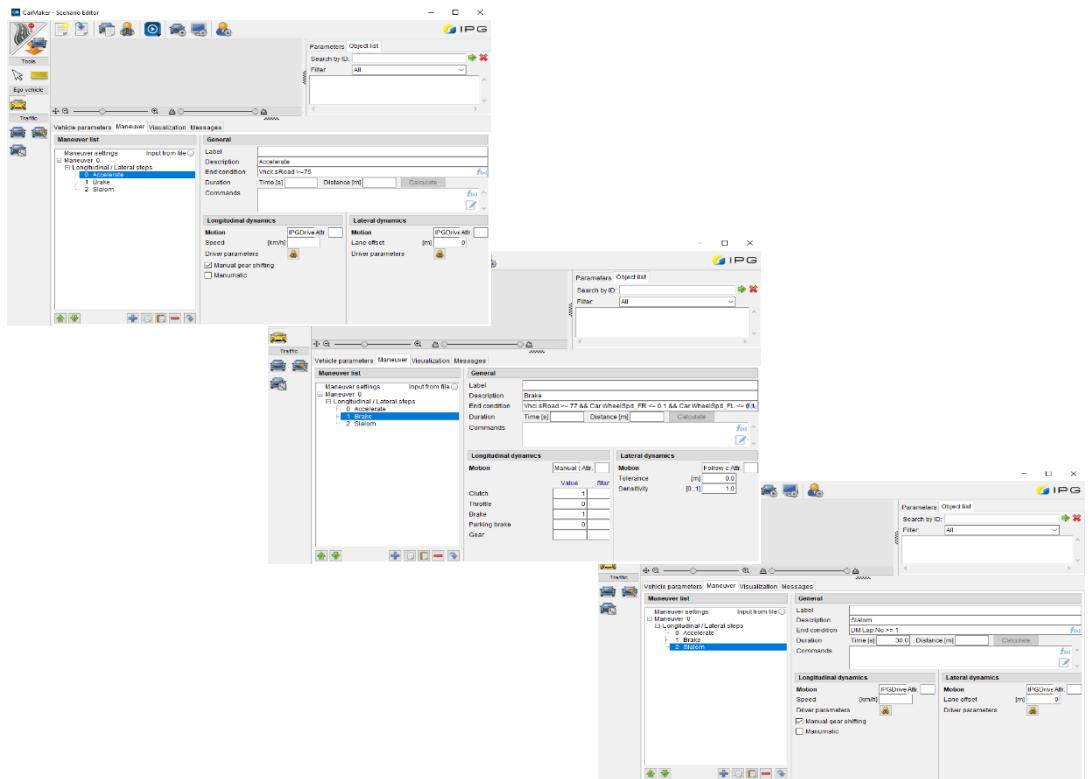

Figure 3.27: Maneuver dialog with successive maneuver steps
- Select "Manual" controller from the dropdown menu in the *Longitudinal Dynamics* field. The clutch and brake pedals must be fully pressed, set the values as shown in Figure 3.27 - (Middle).